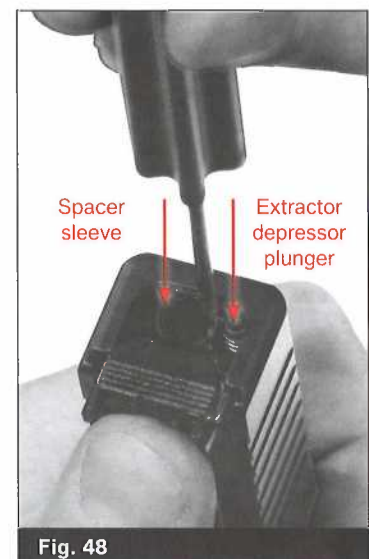

Fig. 48
- When replacing the slide cover plate, hold it partially in its place and press down on the spacer sleeve with a finger or pin punch. This will allow the cover plate to move inward. Then press down on the spring loaded bearing while continuing to press the slide cover plate inward. This will let the slide cover plate move all the way up and snap into position. (Fig. 48)